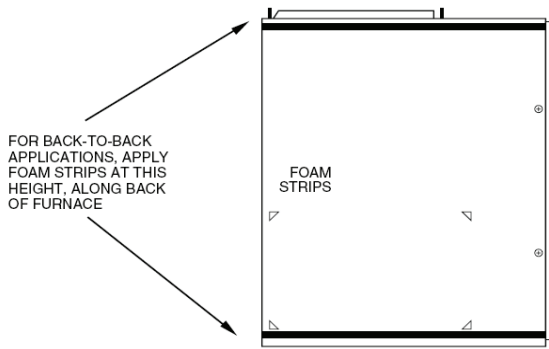

Fig. 6 – Location of Foam Strips
3. Apply two factory-supplied foam strips to mating side of one furnace. Locate strips equal distance from top and bottom as shown in Fig. 6.
- Each piece of angle iron must be secured to the bottom of each furnace with at least two (2) No. 8 x 3/4-in. (19 mm) sheet metal screws.
- Apply two factory-supplied foam strips to the back of each furnace. Locate strips equal distance from top and bottom as shown in Fig. 6. Trim off excess material.